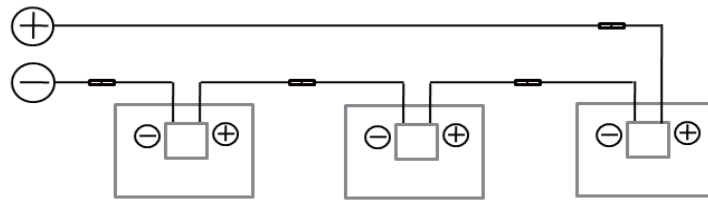
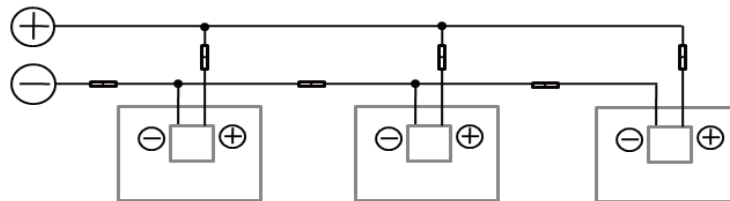
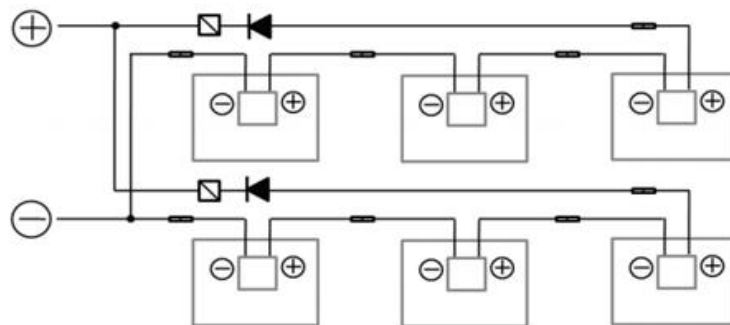

Fig. 9-1 Series Connection
Fig. 9-2 Parallel Connection
Fig. 9-3 Parallel-series Connection
- The Direct Current (DC) generated by the PV system can be converted to Alternating Current (AC) and connected to the public power grid. Different regions may have different policies, laws and regulations to stipulate the installation and grid-connection requirements of PV systems. Therefore, during the design, installation and grid-connection of PV system, please comply with the local policies, laws and regulations.
- In order to ensure the normal running of the system, when connecting modules or loads, please ensure that the polarity of the cable connection is correct. If the modules are incorrectly connected, the bypass diodes and junction boxes may be damaged. PV modules can be connected in series (Fig. 9-1), in parallel (Fig. 9-2) and in series-parallel (Fig. 9-3). The number of serial or parallel connections shall be reasonably designed according to the system configuration. Also note that if the number of parallel connections ≥ 2 , there must be an over-current protection device on each string assembly.